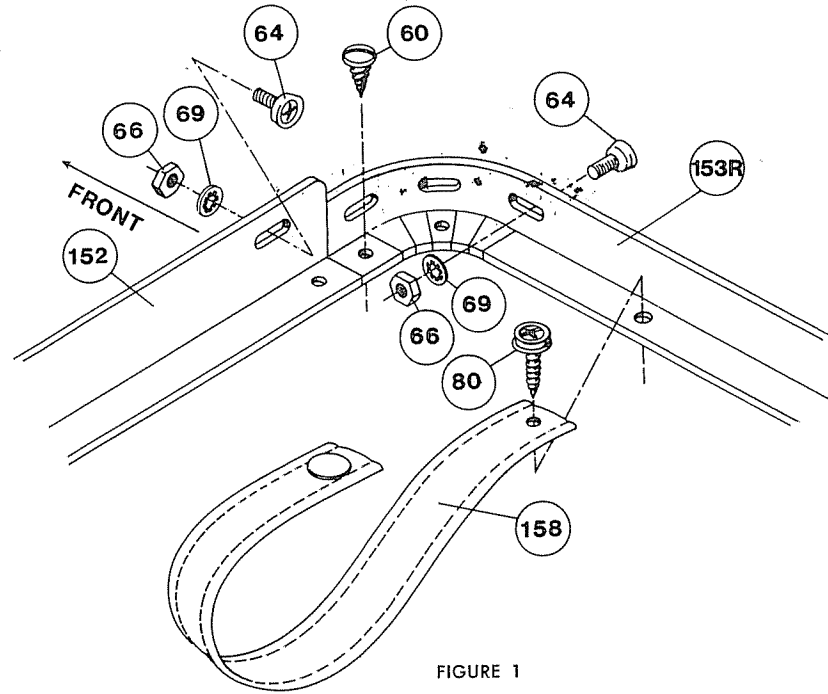

FIGURE 1
1. Install the #10-32 x 1/4" studs, lockwashers, and nuts, Nos. 64, 69 and 66 respectively, in slotted holes in the five aluminum rails. Do not tighten nuts until Step 14. NOTE: Front rail studs are installed on inside of rail while side rail studs are on outside. SEE FIGURE 1.
3. Position No. 153-L left front and No. 153-R right front rails (identified by 3" x 1/4" notch in middle of rails) on top flange of side panels so that curved ends are even with and touching front rail ends. SEE FIGURE 1. This should place side rails 62 1/4" apart (measured from outside edge to outside edge).
This distance must be maintained, front to rear, to assure that rails are parallel. Using holes in rails as templates, drill 5/32" diameter through top surface of side panels and secure rails using #10 x 1/2" self-tapping screws. NOTE: In hole shown, SEE FIGURE 1, attach No. 158 hold-down-strap to each rail using a #8 x 5/8" self-tapping stud.